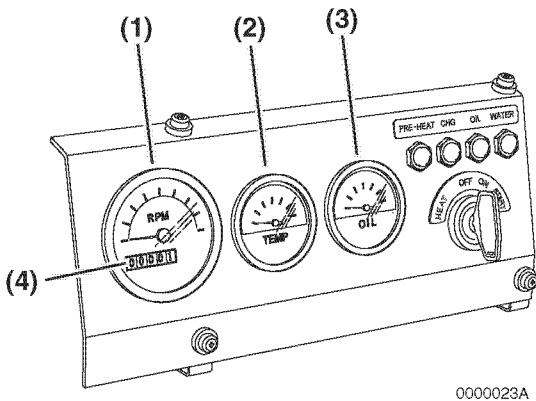
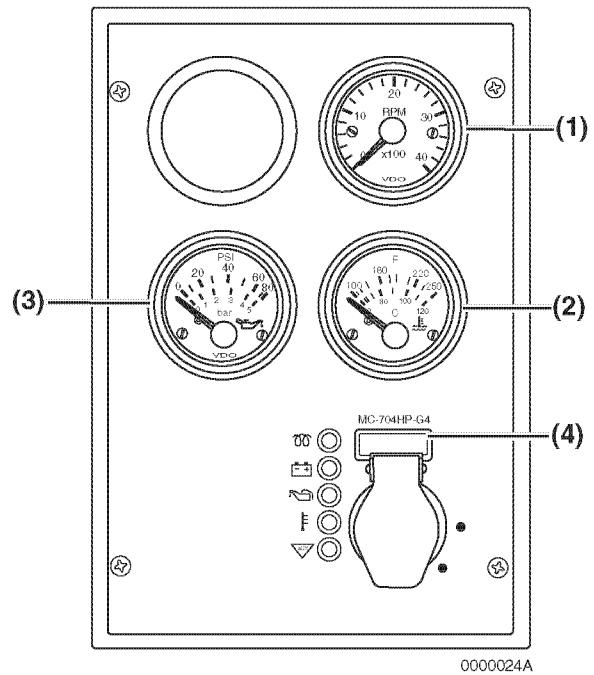

Figure 7
Figure 8
Tachometer - The tachometer display (Figure 7, (1)) or (Figure 8, (1)) shows the engine speed in revolutions per minute (RPM).
Engine Coolant Temperature - The engine coolant temperature display (Figure 7, (2)) or (Figure 8, (2)) shows the temperature of the engine coolant.
Engine Oil Pressure - The engine oil pressure display (Figure 7, (3)) or (Figure 8, (3)) shows the pressure of the engine oil.
Hour Meter - The hour meter display (Figure 7, (4)) or (Figure 8, (4)) shows the total number of hours the engine has run. This is useful for planning the *Periodic Maintenance Procedures* on page 88.